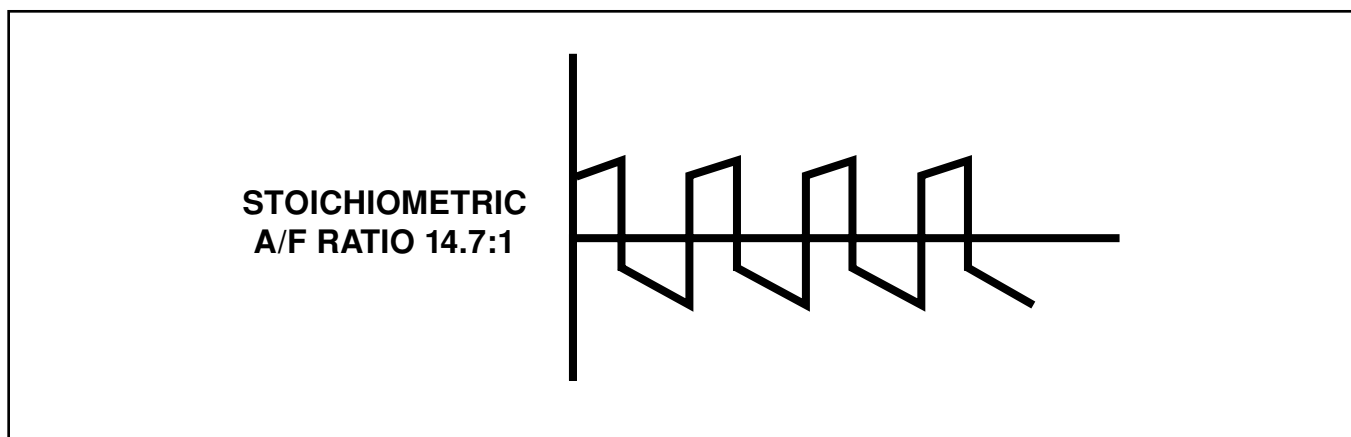

Figure 42 Short-Term Fuel Compensation
As mentioned earlier, when the fuel system goes into closed-loop operation, two adaptive memory systems begin to operate. The first system that becomes functional is called short-term memory or short-term correction (fig. 42). This system corrects fuel delivery in direct proportion to the readings from the upstream O2 Sensor. In other words, as the Air/Fuel (AF) mixture changes, the O2 Sensor voltage tells the PCM that the AF ratio contains either more or less oxygen. The PCM then begins either to add or remove fuel until the O2 Sensor reaches its switch point. When the switch point is reached, short-term correction begins with a quick change (kicks). Then it ramps slowly, until the O2 Sensor output voltage indicates the switch point in the opposite direction. Short-term adaptive memory will keep increasing or decreasing injector pulse width, based upon the O2 Sensor input. The maximum range of authority for short-term memory is  $\pm 33\%$  of base pulse width.